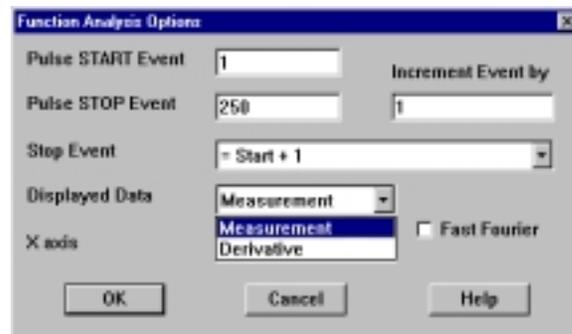

Figure 4.21 Function Displayed Data
- **Displayed Data:** Select method of displaying data (See Fig. 4.21):